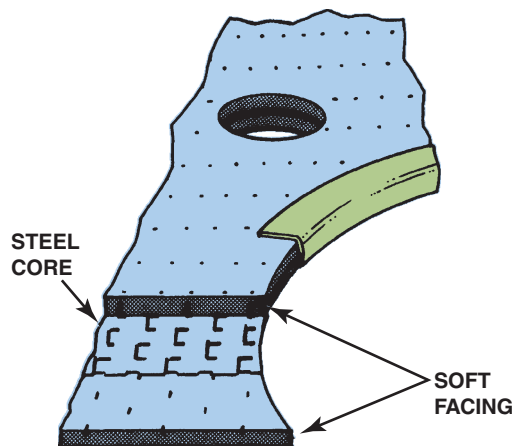

FIGURE 32-3 A typical perforated steel core head gasket with a graphite or composite facing material.
- **Perforated steel core gaskets.** A perforated steel core gasket uses a wire mesh core with fiber facings. Another design has rubber-fiber facings cemented to a solid steel core with an adhesive. ● **SEE FIGURES 32-3 AND 32-4.**